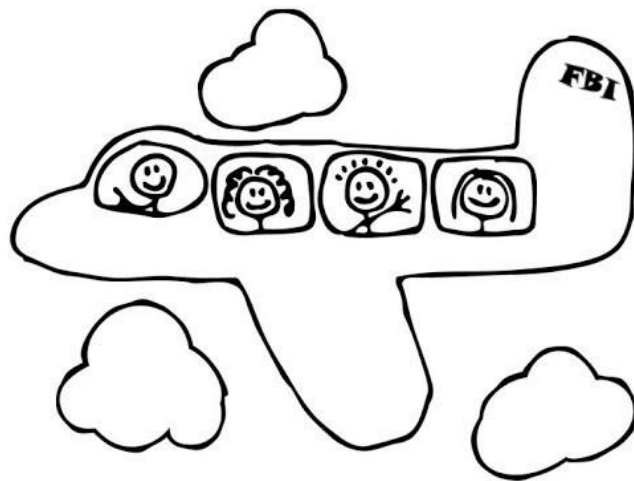

Figure 2. Suspected surveillance plane
- c) You now wish to format the data as a table. A copy of the raw data used in parts (a) and (b) can be found in the 'Question 2c' tab – convert this raw data to a table. You predict that most surveillance aircraft are single engine fixed-wing aircraft like the drawing in *Figure 2*. Using the table filtering tools, display only **single engine fixed-wing aircraft** (type 4) **used by the FBI**, and record the different manufacturers (mfr) of planes used for these conditions. This can be done manually and does not need to auto update with new data. Put your answers in Cells B4:I4 (more cells are provided than needed). **[3 marks]**